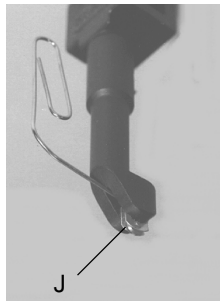

Figure 4
The cutting wheel should last a long time if properly cared for and not damaged, but if necessary, it can be easily replaced. Pry the wheel and its metal clip (J) out of the slot in the cutting head with a paper clip as shown in Figure 4. Slide a replacement wheel unit (Order #03-131) in the slot as far as it will go.